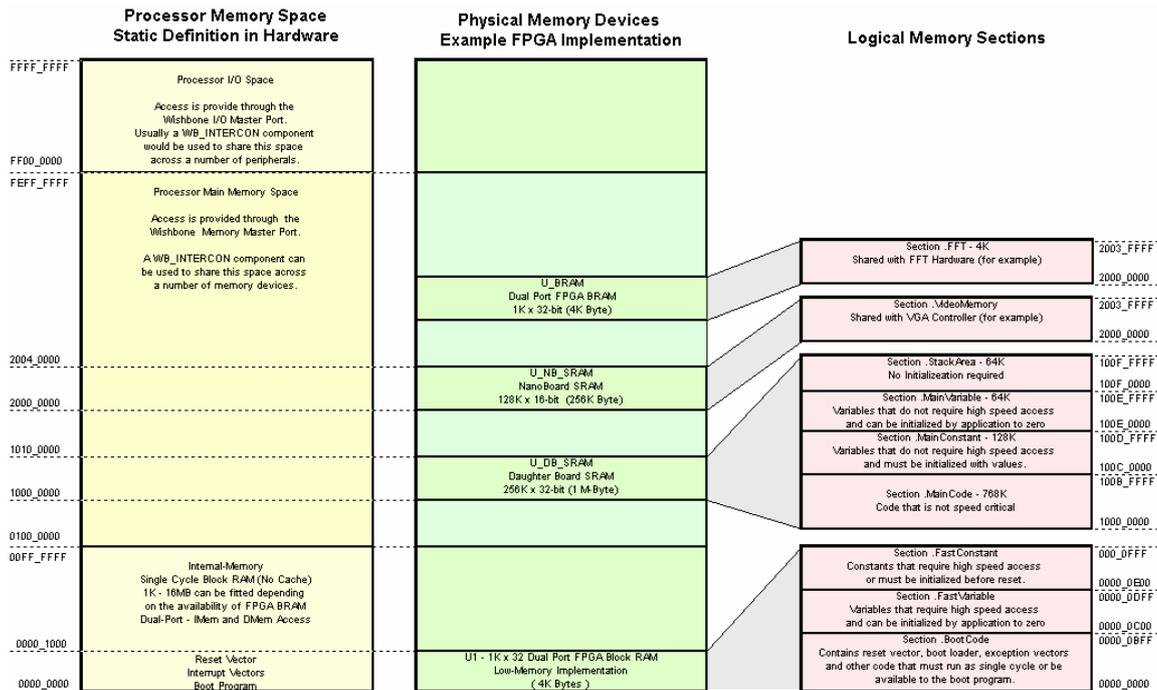

Figure 2. Allocating processor and physical device memory spaces.
When configuring processor memory, the physical memory devices are mapped into the processor's address space – in the Internal and External Memory ranges – but can also be further broken down into separate logical spaces (or sections) for reference by and within the embedded source code. Figure 2 illustrates this concept of memory space allocation.
From left to right, Figure 2 shows:
- Physical memory spaces. In the example of Figure 2, there are four physical memory spaces – Internal Memory, Daughter Board SRAM, NanoBoard SRAM and FPGA BRAM. The dotted lines indicate where in the processor’s address space these physical devices are mapped, and the sizing of each